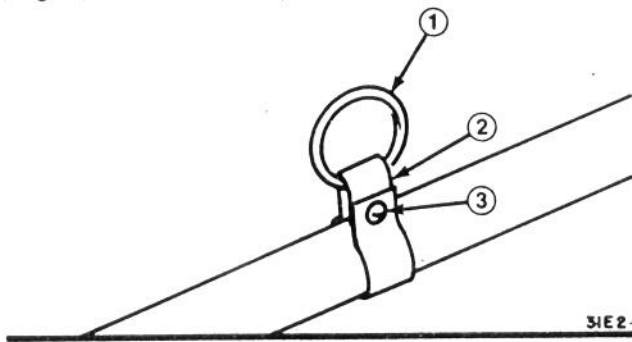

Figure 4
1. Insert ring into loop of clamp and install clamp over drive shaft tube between R.H. and L.H. handgrips. Bend both ends of clamp together (Fig. 4).